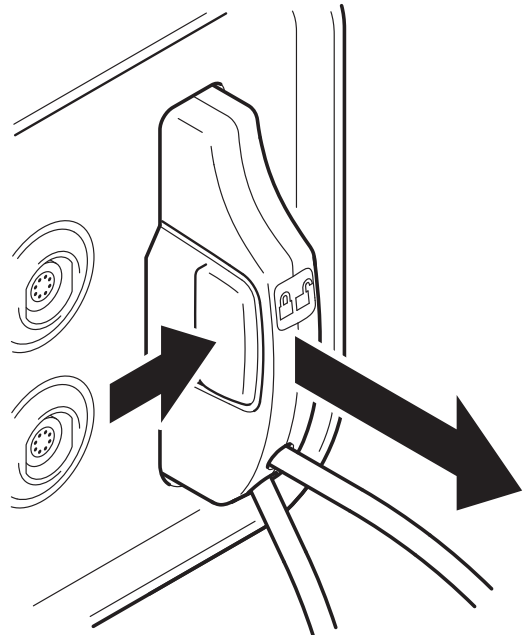

Figure 9 – To Remove an Irrigation Cassette
- 2.2. Remove the irrigation cassette (Figure 9).